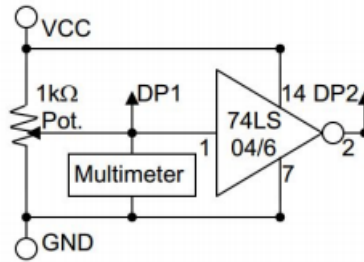

Figure 2: Part A
1. Set up the circuit shown in Fig 2 on the breadboard and turn the potentiometer shaft to one end so that the multimeter reads 0V.